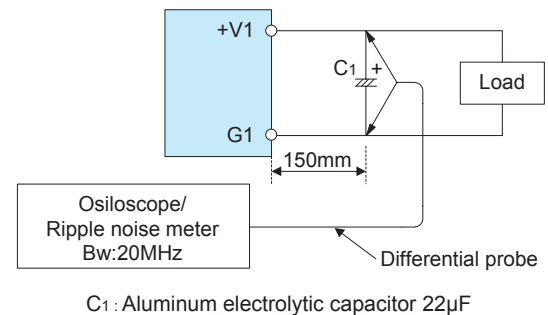

Fig.2.1 Measuring method of Ripple and Ripple Noise
- Output ripple noise may be influenced by measurement environment, measuring method Fig.2.1 is recommended.